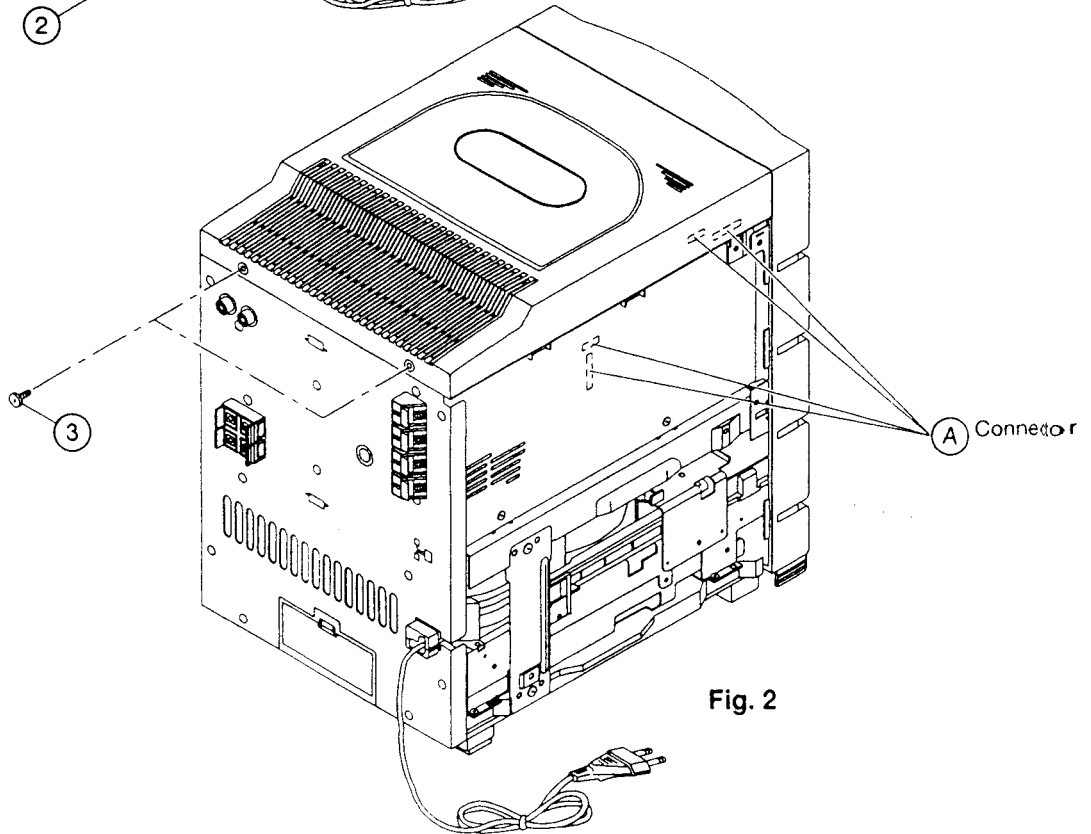
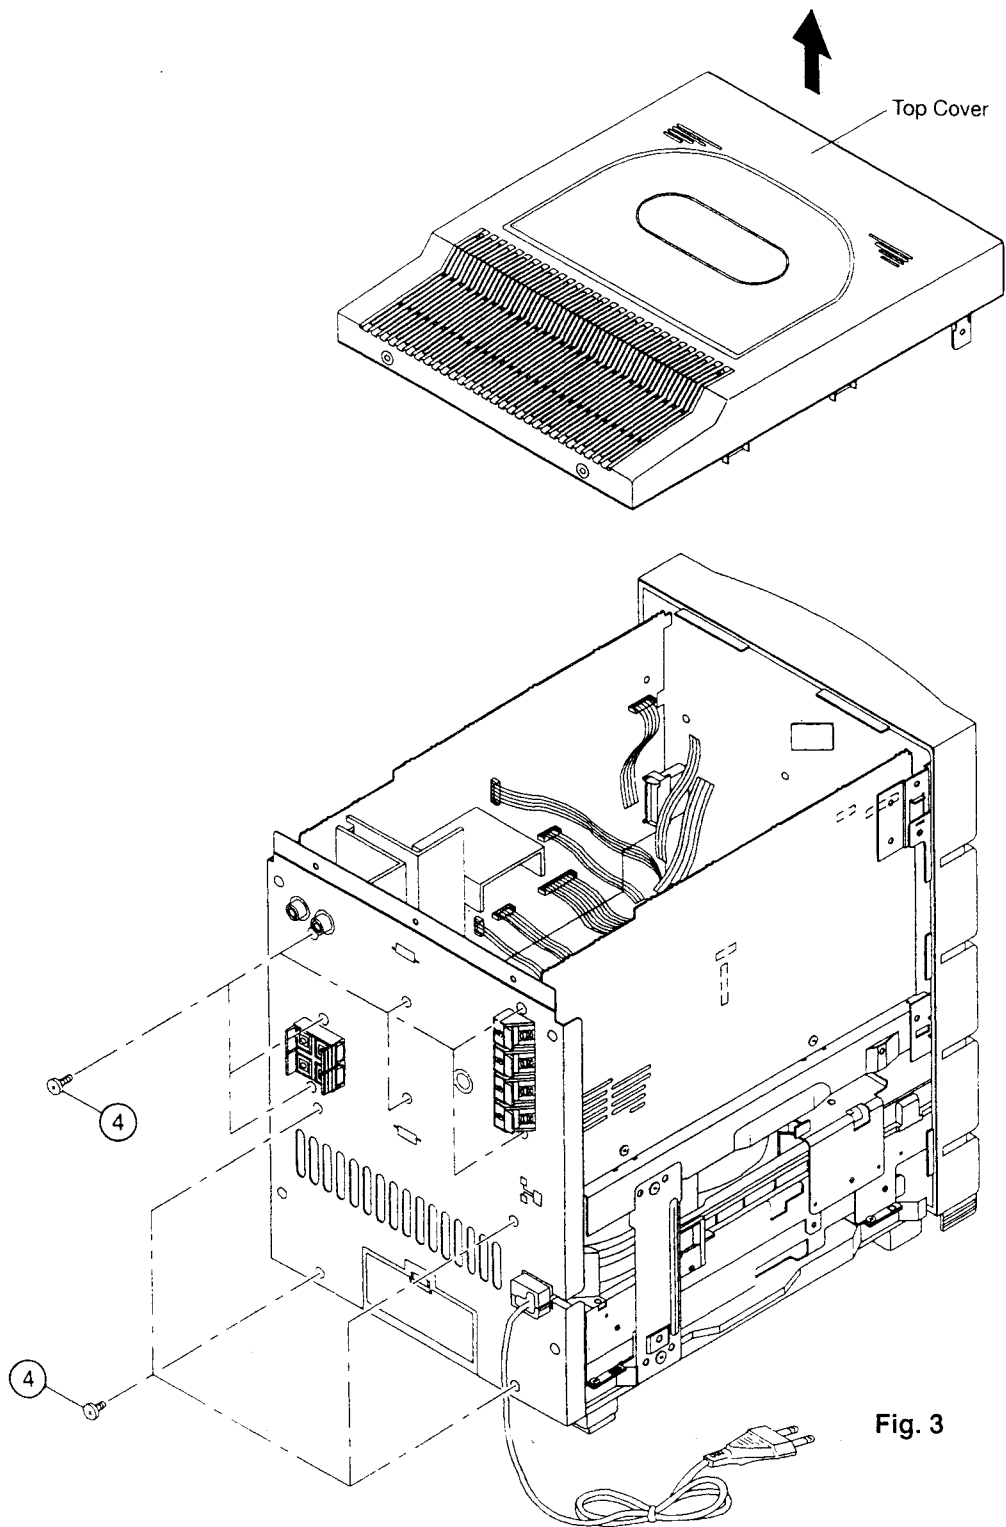

Fig. 2
Fig. 3
2. **Removal of Top Cover. (Fig 2 & Fig 3)**
- (1) Remove 2 screws ③ from the rear plate.
- (2) Disconnect 4 connectors ④ from the TD P.W.B.
3. **Removal of Rear Plate. (Fig 3)**